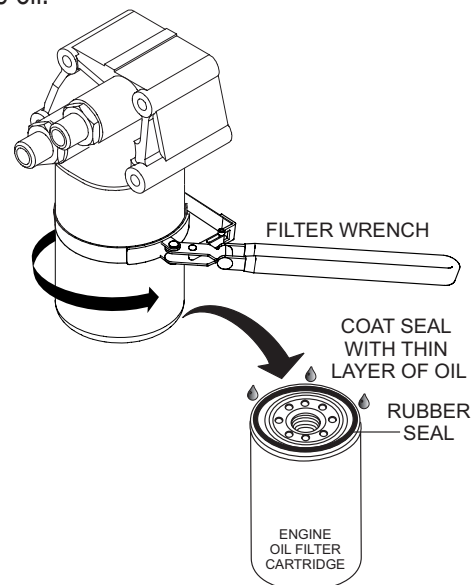

Figure 52. Oil Filter/Seal
7. Coat the seal (Figure 52) of the new oil filter with clean engine oil.